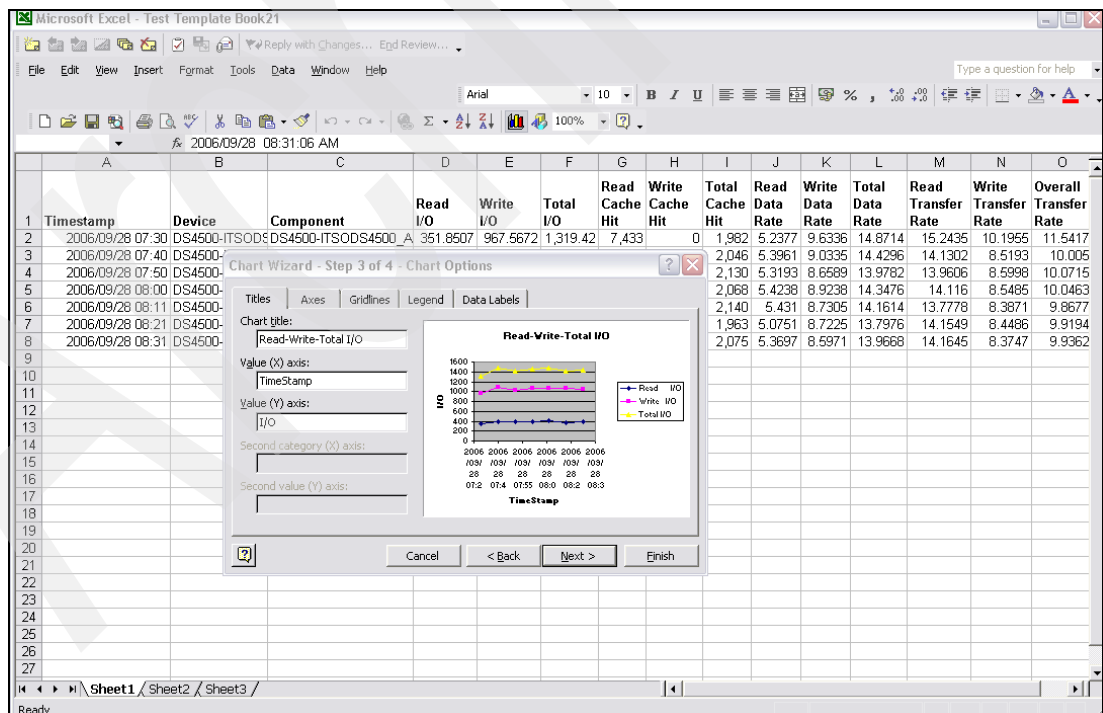

Figure 6-78 Input chart titles
5. You need to enter the chart title, the X value axis title, and the Y value axis title. Use descriptive titles for each graph as shown in Figure 6-78.